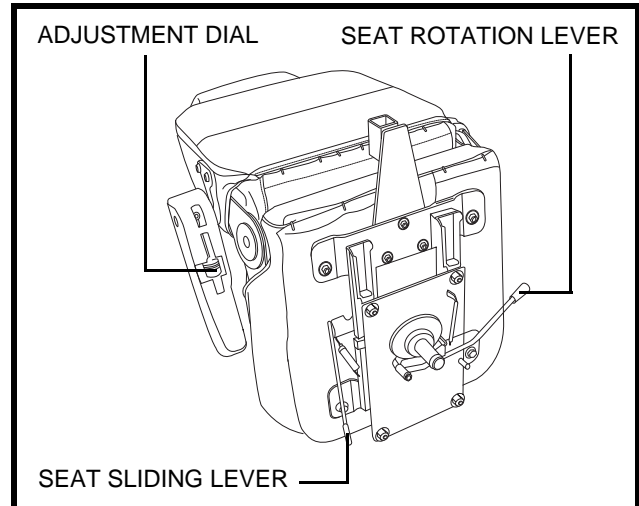

Figure 17. Seat Position Adjustments
1. Push forward on the seat rotation lever to disengage the seat. **See figure 17.**
1. Move the seat sliding lever located at the lower left side of the seat outward. **See figure 17.**
2. Place the seat upside down so that you can see the bottom of the seat base. **See figure 17.**